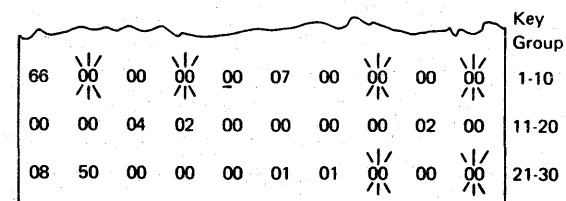

FIGURE 1
The diagnostic causes the contents of thirty of the 8-bit registers to be displayed. Each register will be represented by two alphanumeric characters out of the group: 0, 1, 2, 3, 4, 5, 6, 7, 8, 9, A, B, C, D, E, and F. If all keyboard toggle switches are in a down (off) position and the machine is in the XR mode (initialized diskette installed) when the CE mode is selected, then when the display register diagnostic is selected, the display should look similar to Figure 1.
(The six highlighted registers should always be 00 for a properly operating machine. The other registers will show their contents when the 1/U key is pressed and may be different than shown in Figure 1.)
The six highlighted registers in Figure 1 will always be 00 at first selection of the diagnostic if the machine is operating properly.
- Press the U key. The machine mode and status should change to CEW and the display should look similar to Figure 1. (The six highlighted registers should always be 00 for a properly operating machine. The other registers will show their contents when the U key is pressed and may be different than shown in Figure 1.)